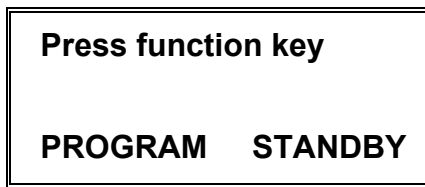

Fig. 3.1a: Program Mode
- Press '1' from the EXTENDED MENU. PROGRAM mode appears on the LCD with unit status as STANDBY as shown in fig. 3.1a.
- Display goes back to Fig. 3.1a. To program another function press the desired function key.